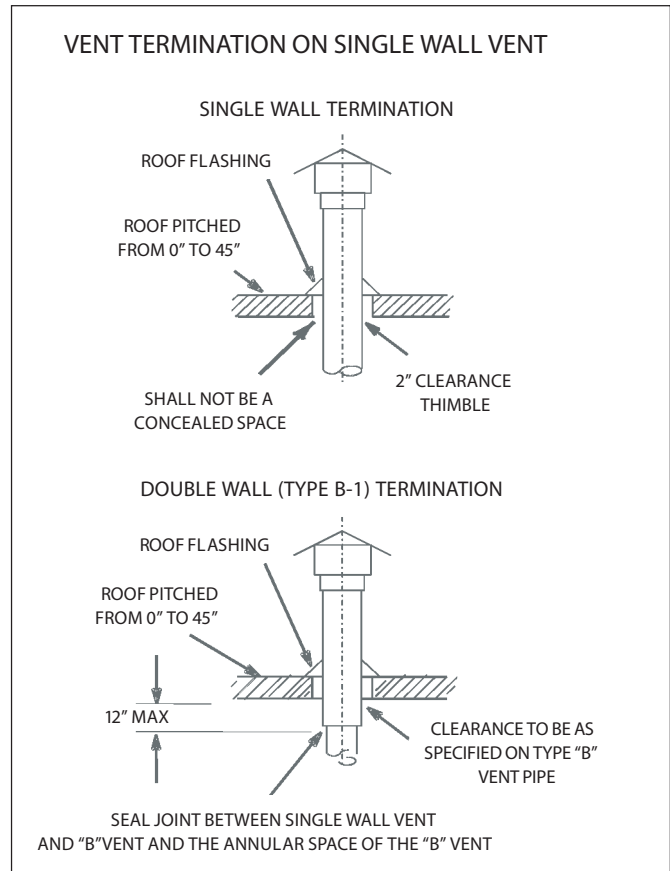
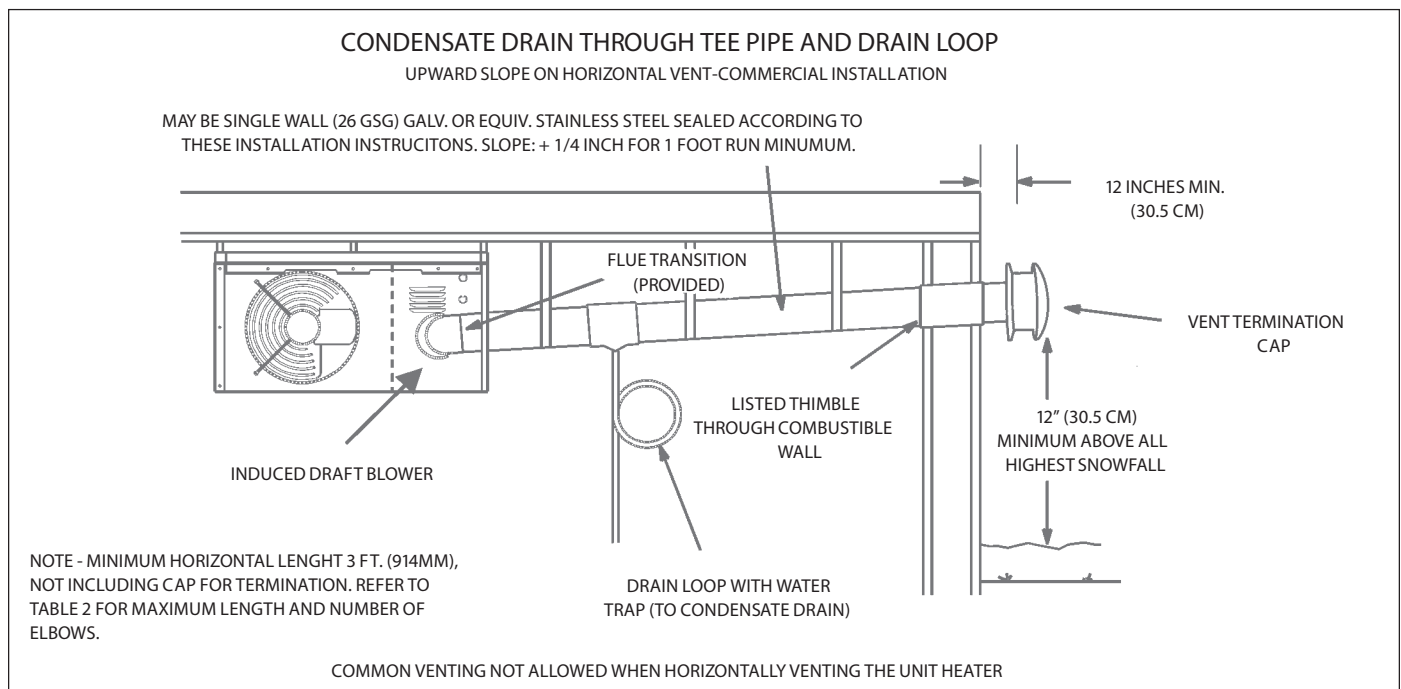

FIGURE 2
FIGURE 3
1. MHU/HSU unit heaters are to be used with NFPA- or ANSI-approved chimneys, U.L. listed type B-1 gas vents, single wall metal pipe, or listed chimney lining system for gas venting where applicable, as well as the modifications and limitations listed in figure 2 . Seal single wall vent material according to the section A - General Recommendations and Requirements.
- When termination is routed through an exterior combustible wall the vent must be supported using a listed clearance thimble. Where local authorities permit, a single section of type B-1 vent pipe may be used as an alternative to the thimble. When using a type B-1 vent termination use the clearances specified by the vent manufacturer. Seal the connection between the single wall and double wall pipes and the annular space of the double wall pipe as shown in figure 2. Inside edge of vent termination tee must be at least 12 inches from outside wall as shown in figure 3 .
- Horizontal commercial installations are for buildings which are not attached to living spaces. The vent may be single wall vent material installed according to the sections Venting A - General Recommendations and Requirements and C - Horizontal Venting General and D - Horizontal Venting - Commercial. Refer to figure 3.